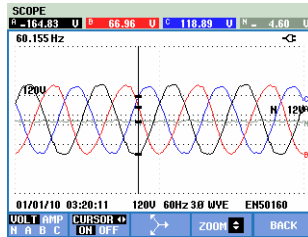

Figure 22-3. Waveform display with cursor and zoom on
- The up/down arrow keys zoom in vertical direction (Figure 22.3).